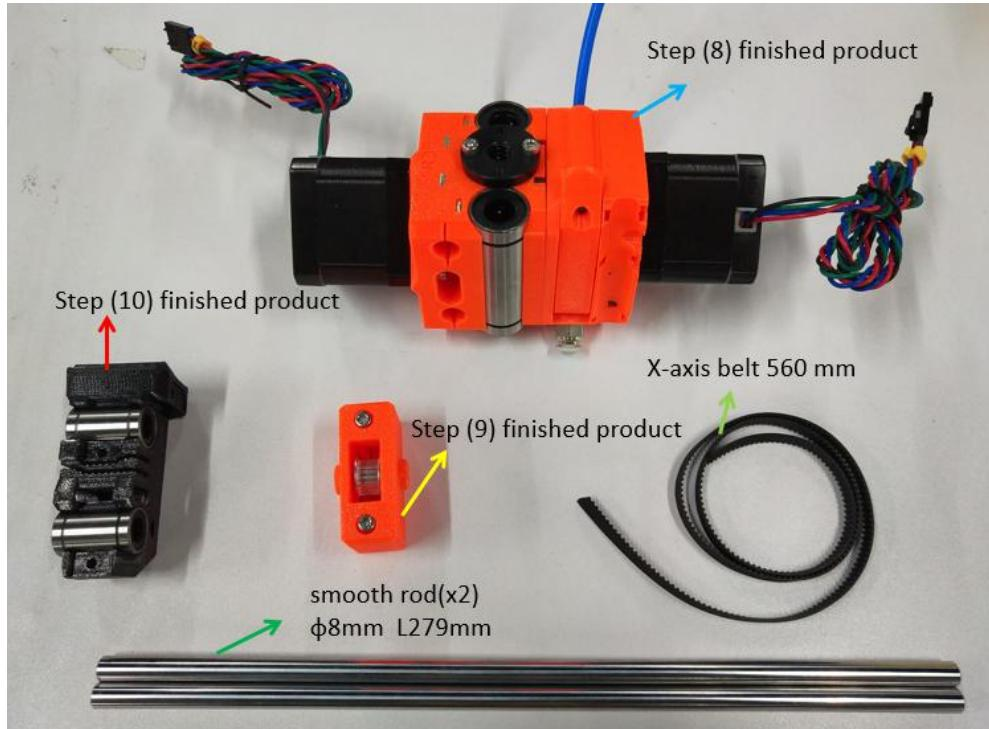

Figure 2.11.1
**Step 2-11-1:** As shown in Figure 2.11.1, prepare the materials and check whether the quantity of materials is correct, and prepare for the next installation.